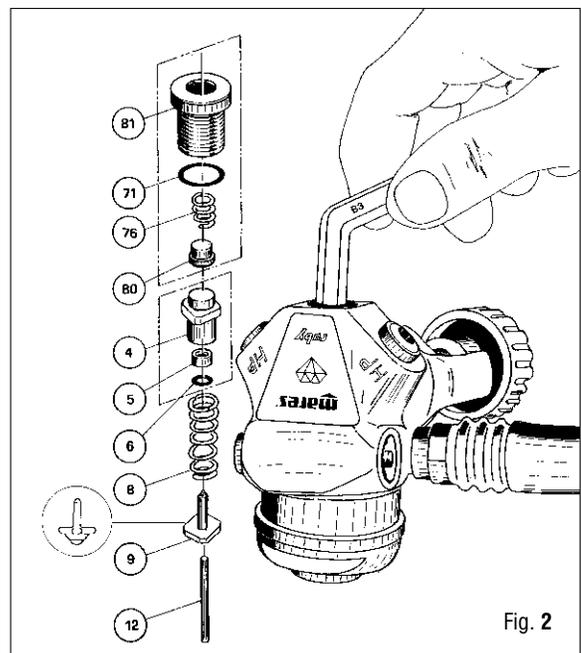

Fig. 2
3. Remove O-ring (71), HP housing button (80) and spring (76) from the cover.
4. Extract the complete HP housing (4-5-6), spring (8), the Ruby poppet of the First Stage (9) and pin (12) from the First Stage body (1). (Fig. 2)
5. Remove O-ring (6) from the HP housing.